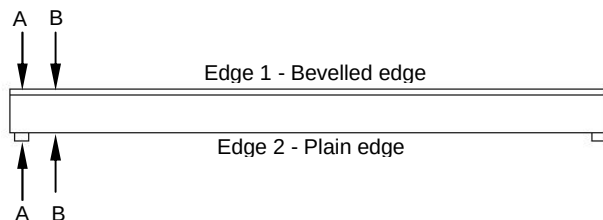

Figure 1. Details of Straight Edge
3.2 Details of the areas where the straight edge requires measuring and checking are detailed in Figure 1. Additionally, the lateral 'bow' of the straight edge needs to be checked.